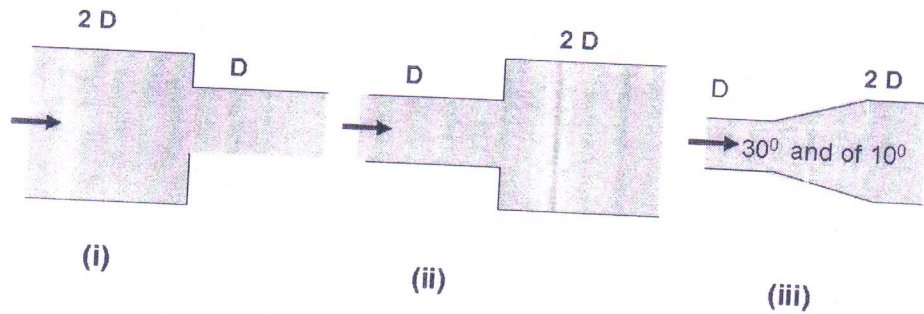

Figure-04
- b). Use dimensional analysis to arrange the following groups in to dimensionless parameters (08)
- Q. 4 a) Two pipes with a diameter ratio 1:2 are connected in series as shown in Figure-04. With a velocity of 6.8 m/s in the smaller pipe, find the loss of head due to
i) Sudden enlargement ii) Sudden contraction iii) Expansion in a conical diffuser with a total angle of 30° and 10° . (12)